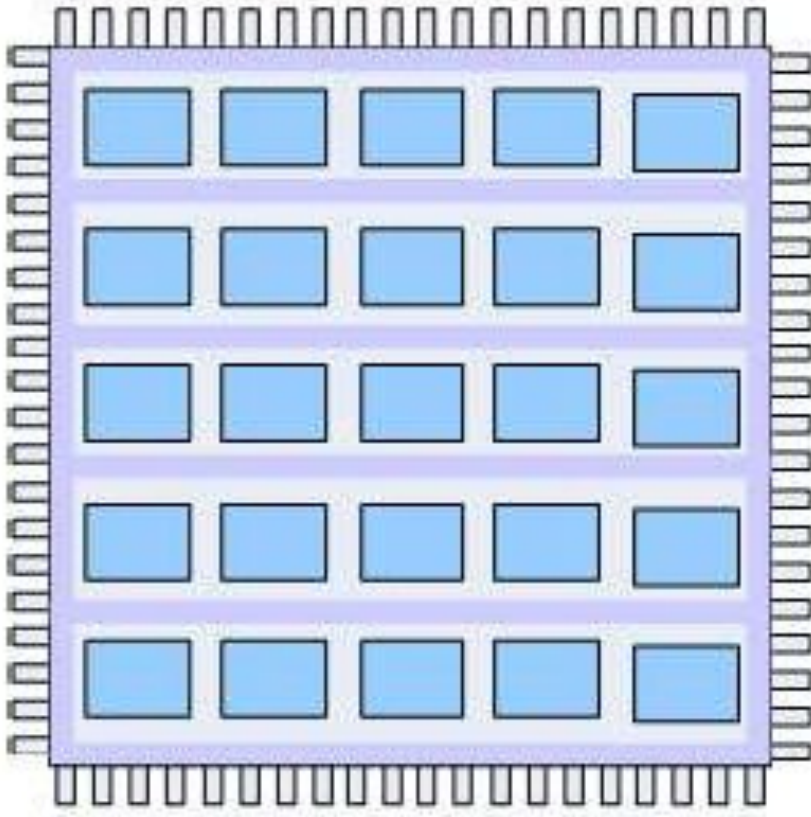

Fig1 : General Architecture of Row based FPGA
- A row-based FPGA consists of alternating rows of logic block or macro cells and channels as shown in Fig 1 and 2.